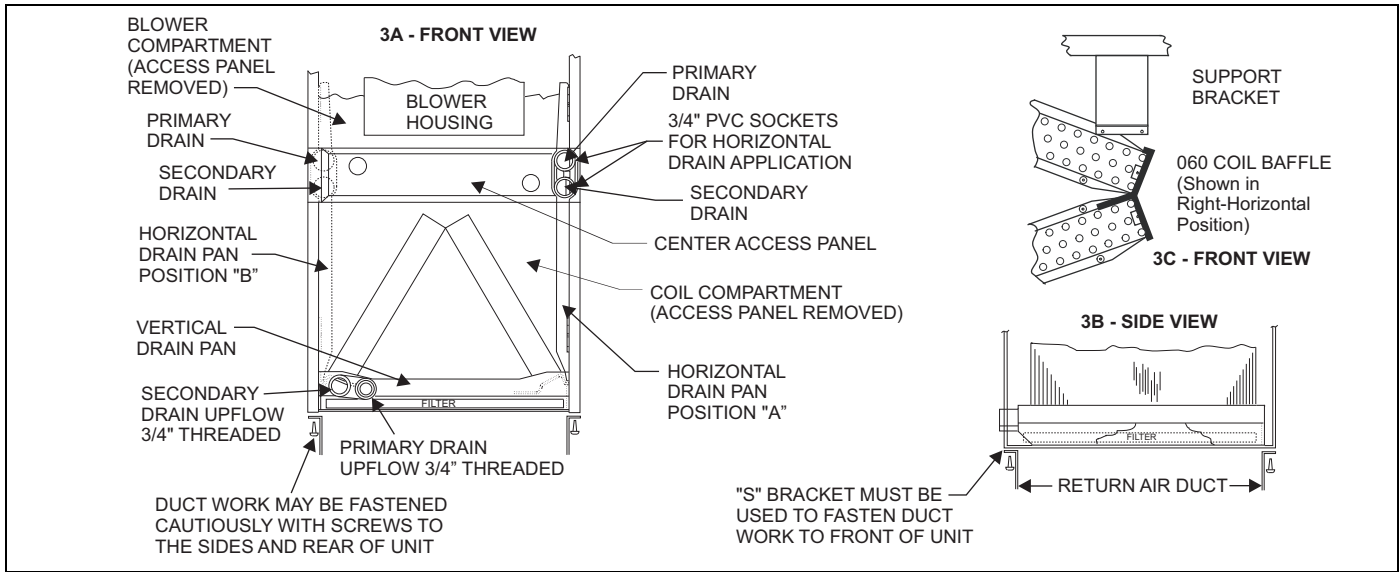

FIGURE 3: Filter Access & Drain Pan Conversion / Coil Baffle
2. Remove two screws from horizontal drain pan, to remove pan from position "4A" if factory installed. See Figure 3.